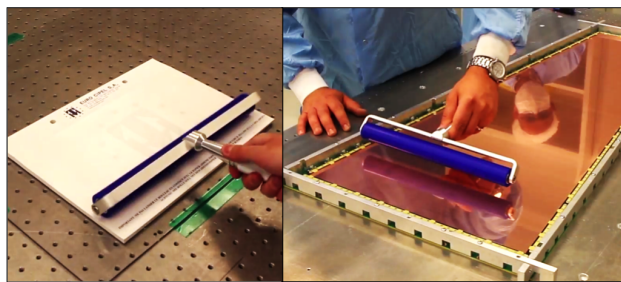

Figure 103: Cleaning the top GEM foil.
Step 5: Clean the top surface of the GEM stack with the static roller without applying too much force on the foils (Fig. 103).